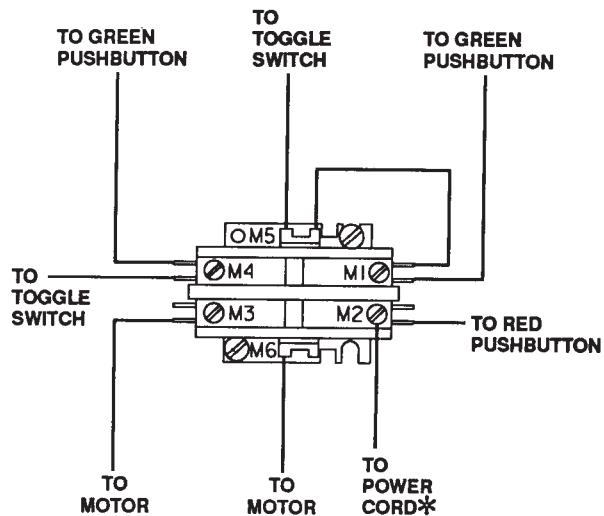
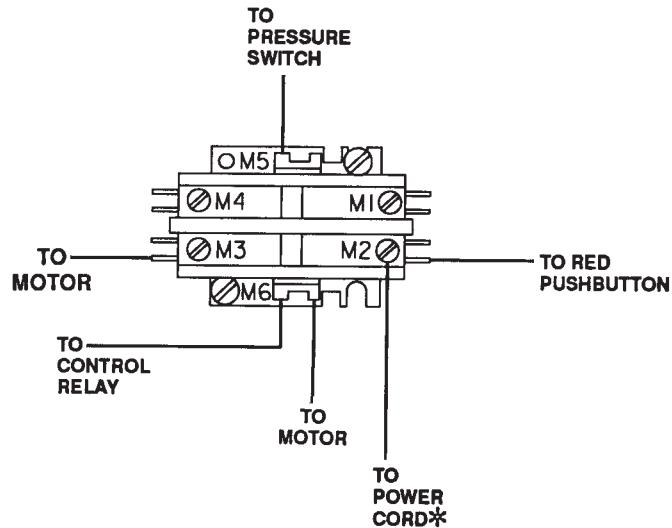

FIGURE 4
FIGURE 5
Step 4: This step is for manual (see Figure 4) or manifold & pressure switch (see Figure 5) operated pumps.